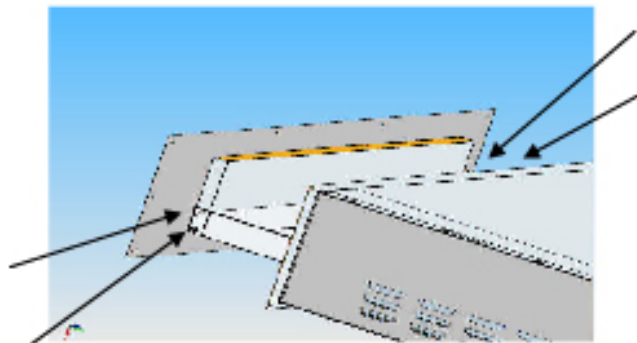

Figure 2
- Loosen the two screws on the inner left and right side of the drawer, as shown in Figure 2, and remove the panel from the appliance drawer.